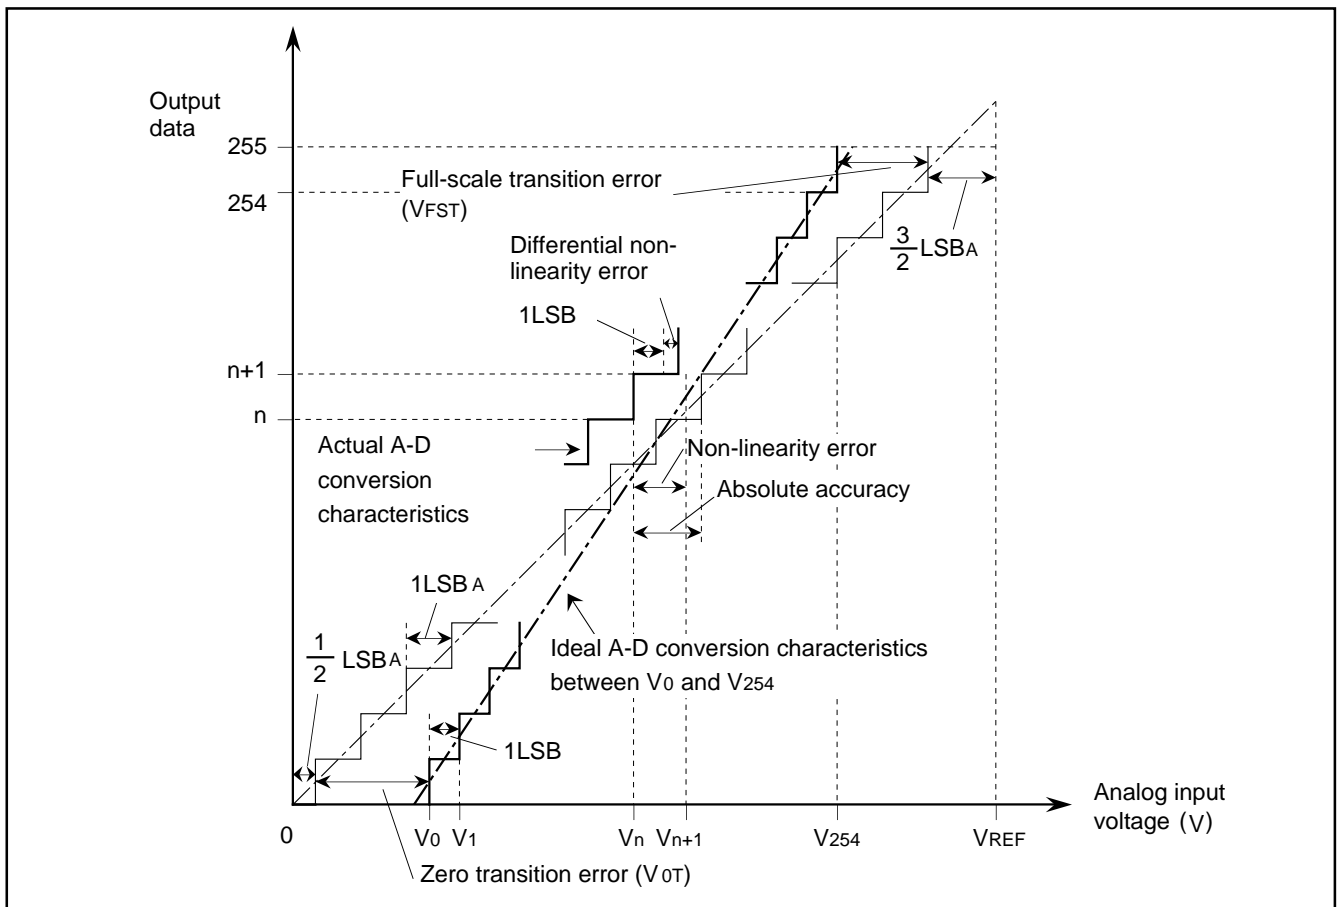

Fig. 30. Definition of A-D Conversion Accuracy
**Note:** The analog input voltage “Vn” at which A-D conversion output data changes from “n” to “n + 1” (n ; 0 to 254) is as follows (refer to Figure 30) :